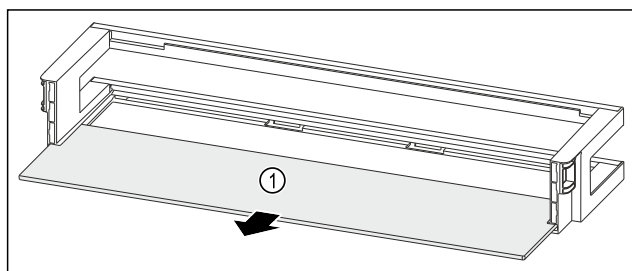

Fig. 175 Door rack with shelf
- Remove the shelf Fig. 175 (1).